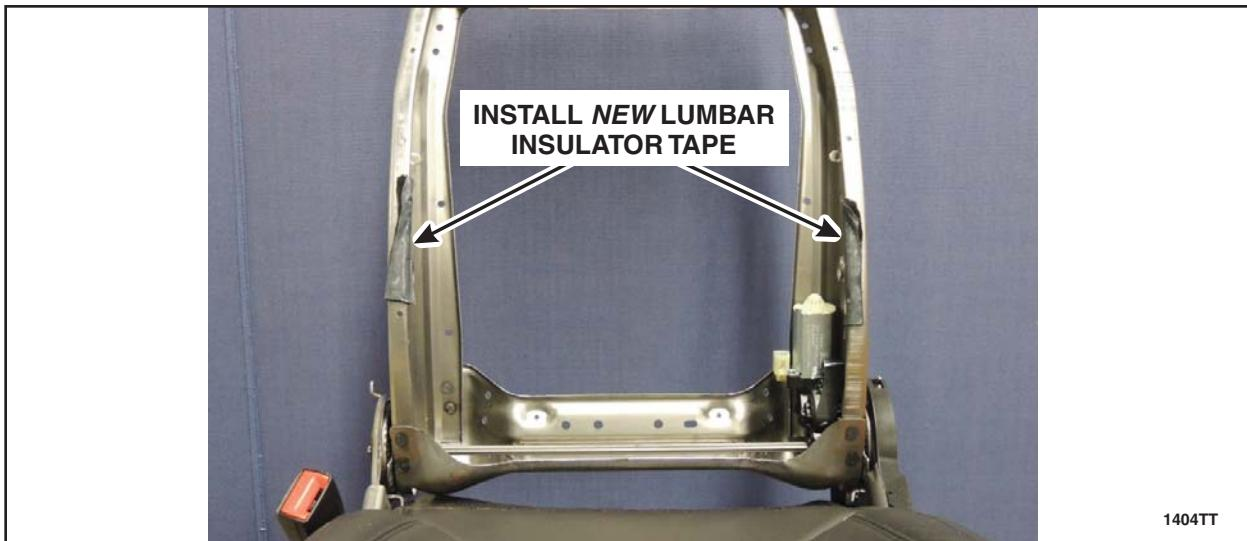

FIGURE 20
6. Install *new* lumbar insulator tape onto the *new* backrest frame in the same location noted on the old backrest. See Figure 20.